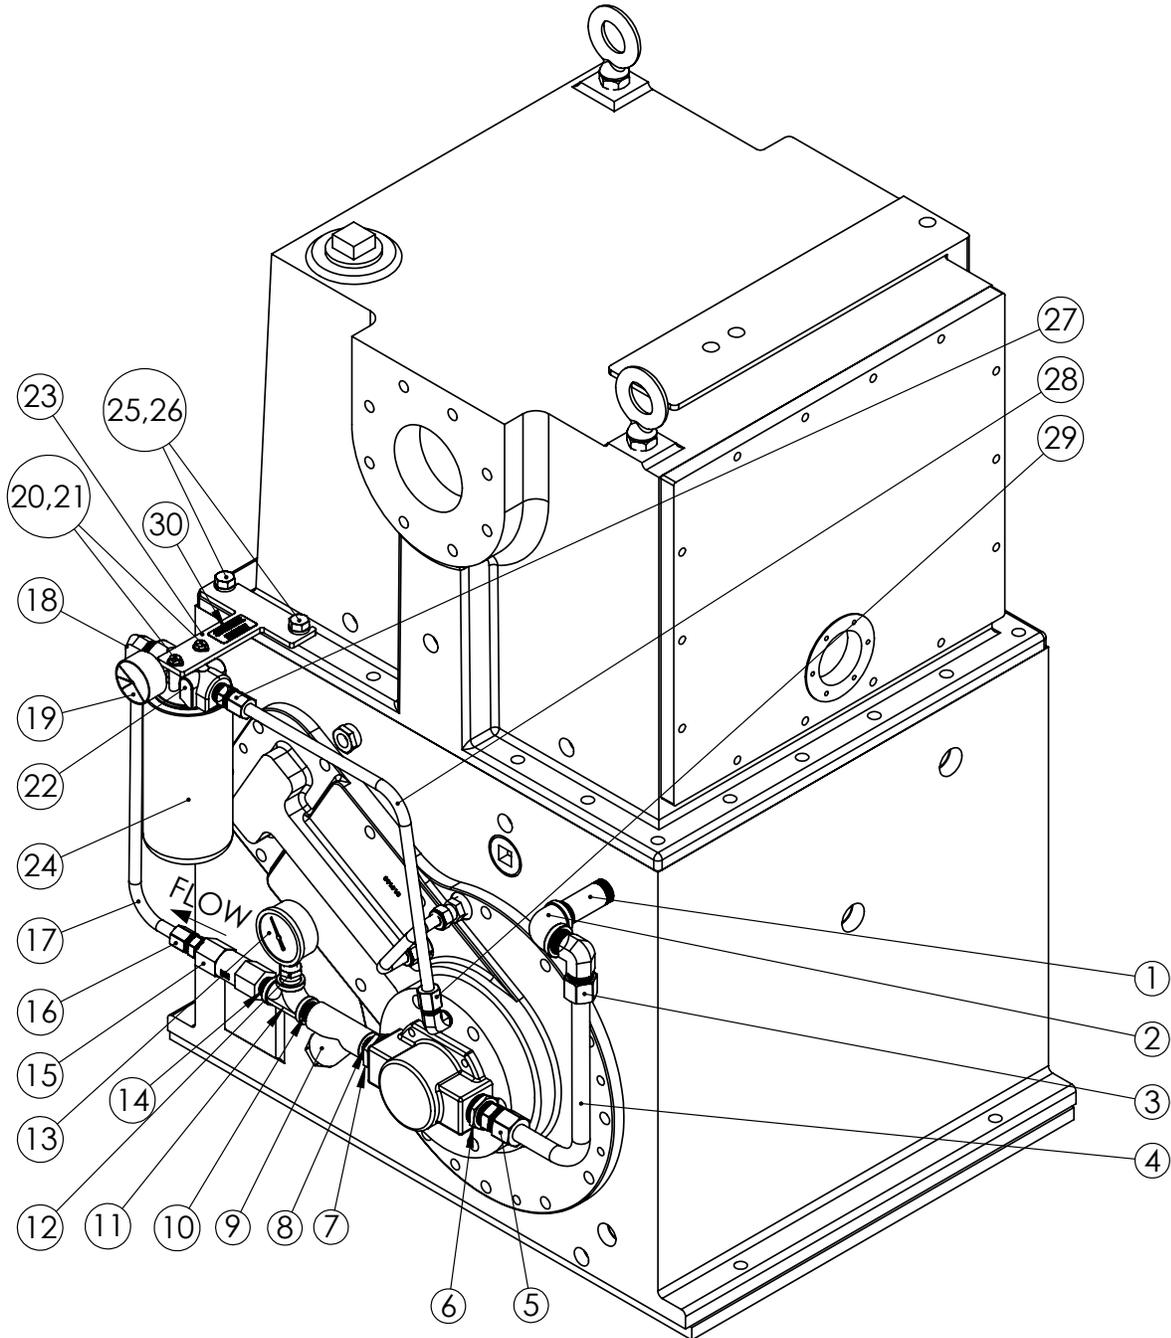

Figure 3-2 – KT-500 Filter Kit Drawing
4. Remove the two bolts in the separator housing where the bracket will be mounted (refer to FIGURE 3-2). These bolts will not be reused.
5. Loosely attach filter housing/bracket assembly using bolts and washers (#20 & #21 – FIGURE 3-2).
6. Install kit plumbing as shown in FIGURE 3-2 starting with #1 using the Loctite 567 on all NPT parts. Tighten NPT fittings, but leave tube fittings loose until assembled. Tubes may be shortened/cut using a standard tube cutter. Ensure check valve is orientated correctly with flow.
2. When starting KT Pump the green/red gage (#14 – FIGURE 3-2) needle may be in the red until the oil is above 140°F, this is normal. If gage needle is in the red when temperature is above 140°F, replace filter.